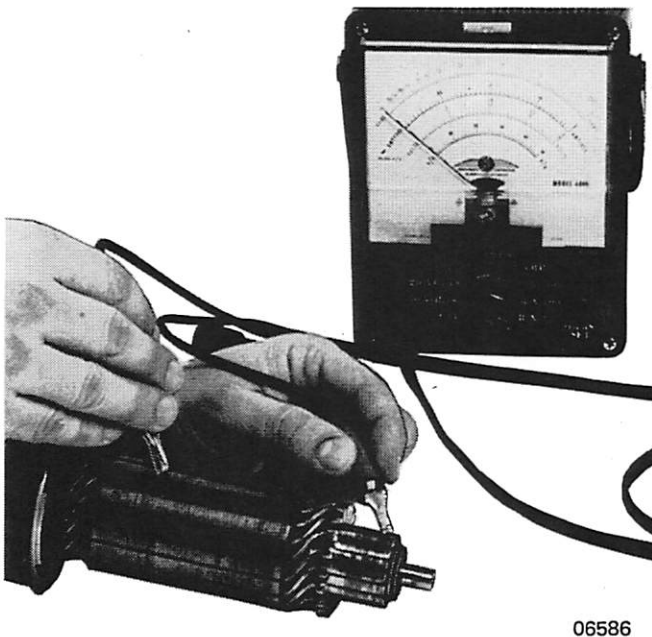

Figure 6. Armature Test for Ground Field Coil
2. If meter hand on Analyzer (or VOA Tester) moves to right, armature is grounded and must be replaced. (Figure 6)